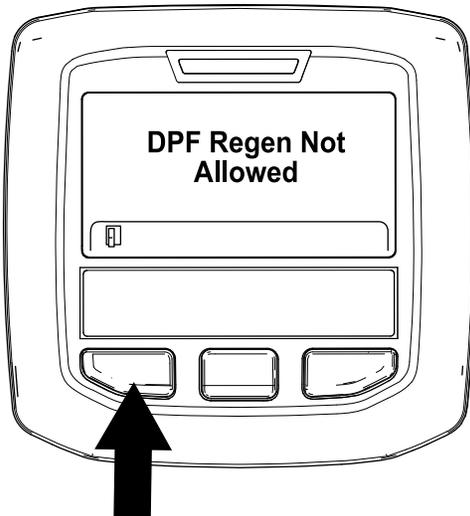

Figure 56
- If the regeneration process is not allowed by the engine computer, the “DPF Regen Not Allowed” message displays in the InfoCenter (Figure 56). Press the left button to exit to the home screen